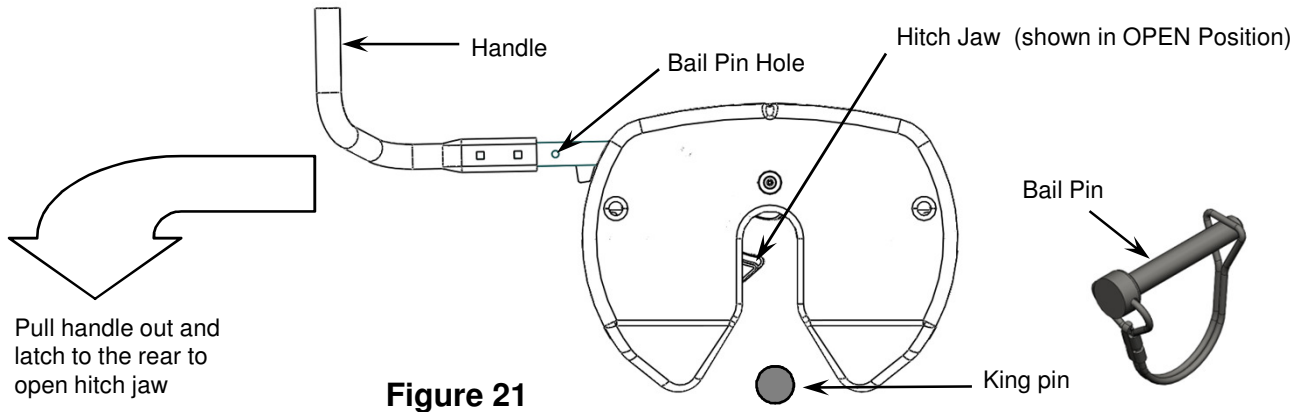
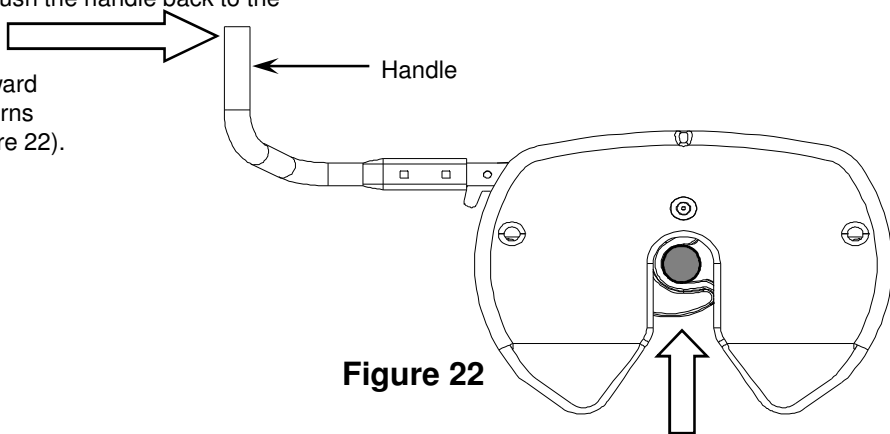

Figure 21
Figure 22
4. Remove bail pin (see Figure 21). Then pull handle out and rearward to hold open
5. With handle in the open position (See Figure 21, back truck slowly into trailer. As king pin completely enters head, jaw will spring closed around king pin and handle will return to the closed position. If the handle does not return to the closed position, then try to push the handle back to the closed position. If handle does not return to the closed position then move the truck slightly forward or rearward until the handle returns to the closed position (See Figure 22).
7. Pull hitch handle out completely until it latches in open position so that king pin is no longer securely grasped by hitch jaws (see Figure 21). Trailer is now free from hitch and truck. If handle does not pull out, there is probably pressure against the jaw. To relieve this pressure, back the truck slightly or pull the truck slightly forward. Reset truck emergency brake. Then pull hitch handle out completely until it latches in open position.